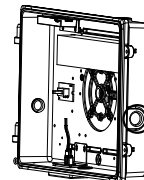

Figure 28
8. Use a Flat-head screwdriver to remove one of the side 1/2" KO plugs that will be used to feed the supply conductors into the fixture. (see Fig. 28)